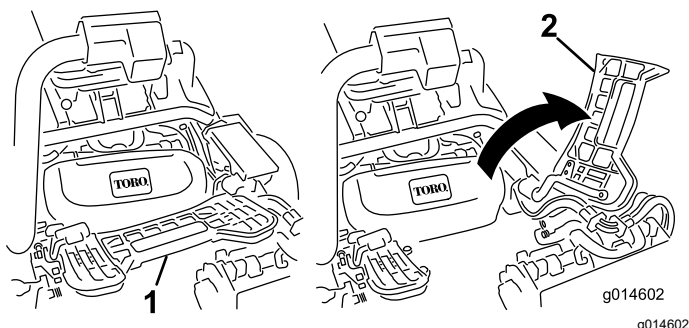

Figure 51
2. Lift up on the foot rest and swing it open, allowing access to the center cutting unit position (Figure 51).